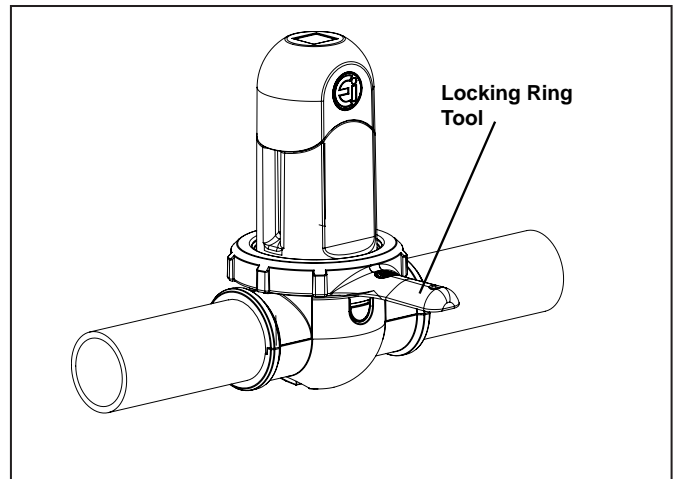

Figure 27. Undo Locking Ring
5. Undo the locking ring. If required, use the locking ring tool provided (see Figure 27).